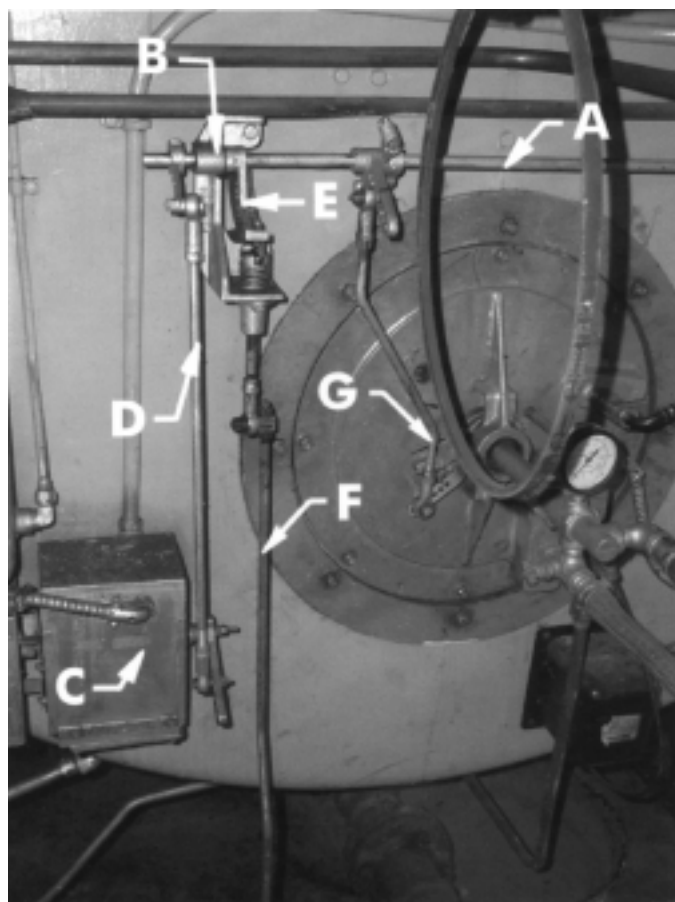

Figure 10-26. Jackshaft
the section on steam pressure control or another form of actuator responding to a device that is attempting to maintain the pressure or temperature at the boiler outlet is connected to a shaft (A in Figure 10-26) by mechanical linkage. The shaft is supported on the boiler by two or more bearings (B).
As the motor (C) rotates, or the actuator changes position, the linkage (D) rotates the shaft. Some burners may not have a single central jackshaft, especially with small burners the linkage may simply connect one device to the next, but most burners will have one. In Figure 10-26 the gas valve (not shown) is driven by a cam (E) which pushes on linkage (F) and the burner register is controlled by another link (G). Notice that the linkage that controls the air, moving either a damper or register, is directly connected to the shaft without any adjustable cam.
The first step in setting up controls with a jackshaft is to establish linearity of air flow. That's all you have to do to get linear control because the fuel will be adjusted to match air flow. With simple linkage like that shown in Figures 10-26 and 10-29 establishing linearity can be very difficult but it's an exercise that's essential to get consistent control. I'll cover it in more detail in a bit.